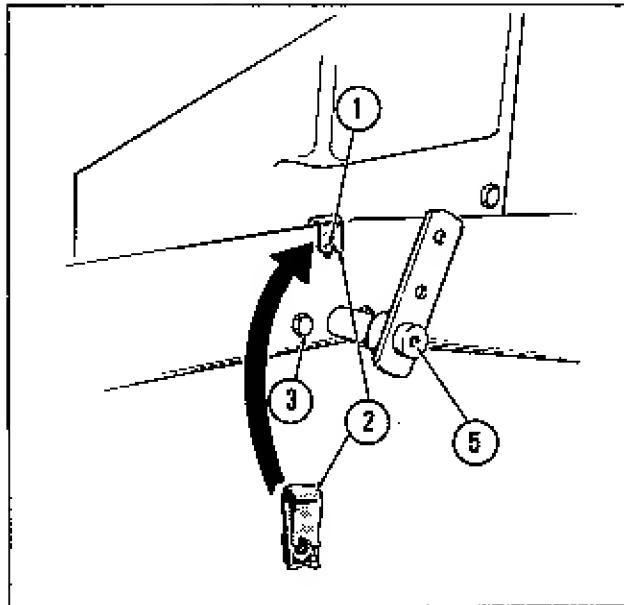

Figure 1
1. On the right hand side of the tractor frame, locate a mounting hole, No. 1—Fig. 1, above the lift lever shaft and at the upper edge of the tractor frame. Attach the nut retainer, No. 2—Fig. 1, at this point, with the nut on the inner surface of the frame as shown.
2. Remove the 2 hex cap screws from each side, No. 3—Fig. 1, of the lift lever shaft and mount the quadrant assembly, No. 4—Fig. 2, to the side of the tractor frame as shown in Figure 2, using the 2 hex cap screws previously removed. Insert a hex cap screw, 5/16-18 x 3/4" lg. SAE Grade 5, and 5/16 lock washer into the upper mounting hole of quadrant and tighten into the nut retainer installed during step 1.
3. Place the spacer, "F" —page 2, within the hole in the end of the lift lever assembly, "E" —page 2, and position a washer, "G" —page 2, on each side of the spacer. Insert a hex cap screw 7/16-14 x 1 1/4" lg., "J" —page 2, with lock washer, through the washers and spacer and attach the lift lever assembly to the end of the lift lever shaft. Refer to No. 5—Figs. 1 & 2. Tighten the hex cap screw securely.